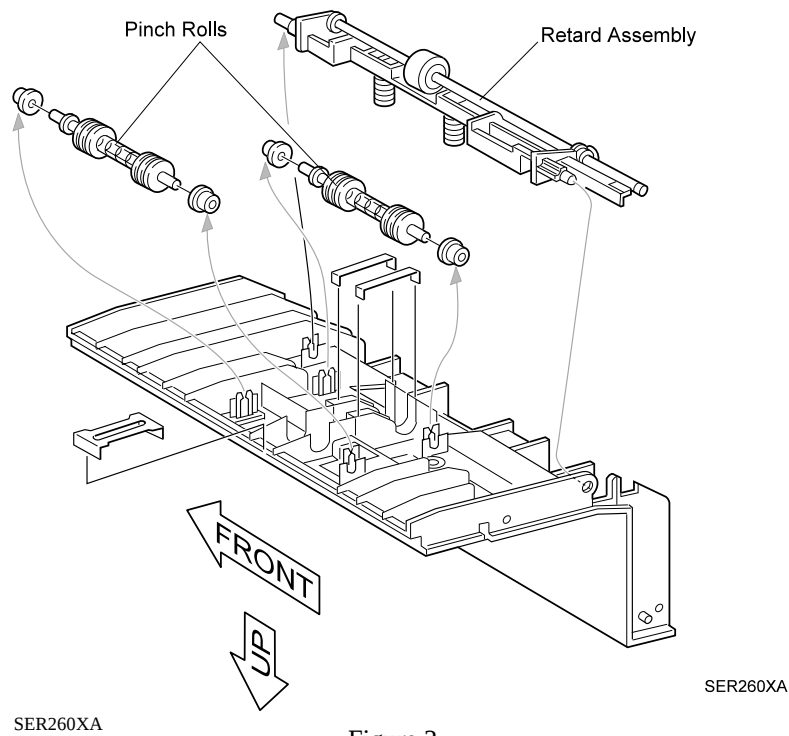

Figure 2
11. Pry the two Pinch Rolls and the Retard Assembly out of the slots in the Upper Cover (Figure 2).
1. Reinstall the Pinch Rolls and Retard Assembly into the slots in the Upper Cover (Figure 2).